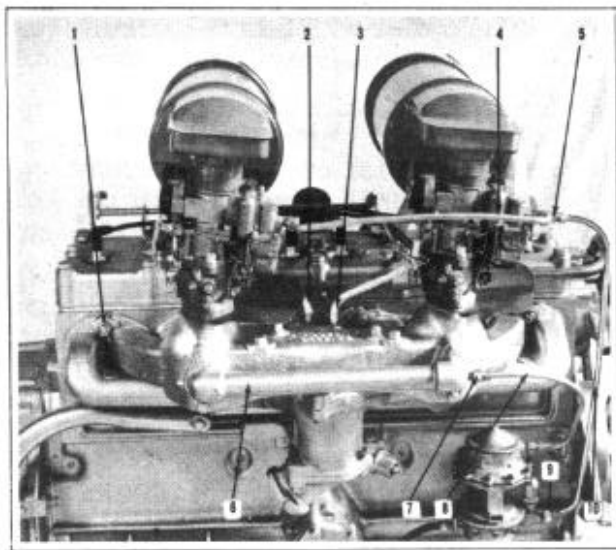

FIGURE 99
19. Install inlet and exhaust manifold clamps on studs and draw manifolds against cylinder by tightening stud nuts (1), Figure 99, evenly, a little at a time, starting from the center and working toward the ends. While doing this, also tighten evenly the intake to exhaust manifold bolt and stud nuts. This will insure proper alignment of the manifolds with each other and with the cylinder.
22. Install (8) carburetor to intake manifold gaskets on each manifold riser with a heat shield in the center of each gasket pack.